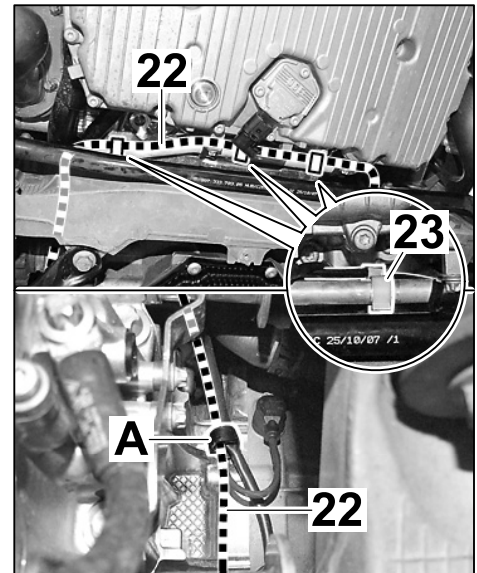

Figure 12
- 4.4 Route the vacuum line (1,200 mm) ⇒ *Figure 12* **-22-** through the holder ⇒ *Figure 12* **-A-** on the right side of the transmission (near the speed sensor) to the engine compartment.